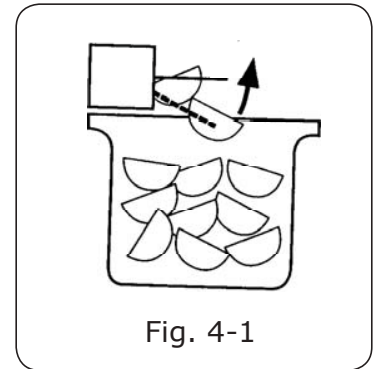

Fig. 4-1
- The ice making function may be temporarily stopped by raising the metal arm to an upright position (see Fig. 4-1).